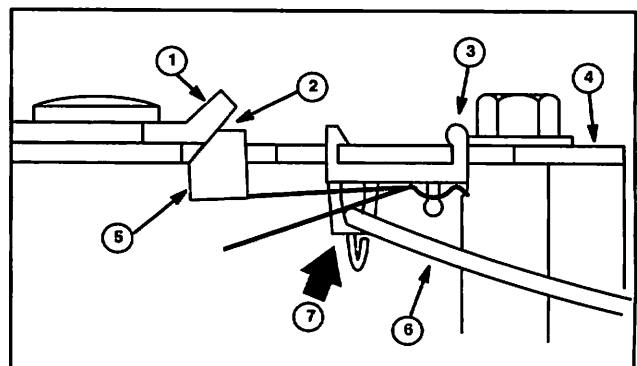

Fig. 25
1. For STOP position, release control completely. Control lever (1) at engine must contact (2) stop switch (3) at tang (5) shown in Fig. 25. Control bracket (4)